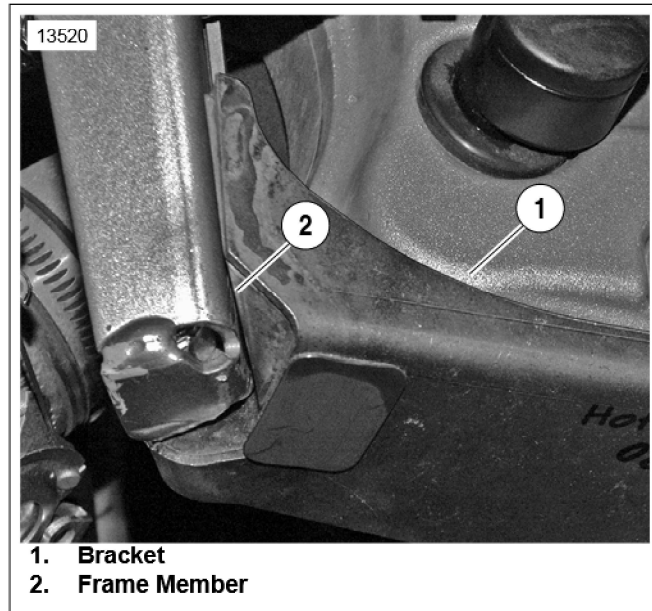

Figure 3. Bracket Properly Seated
- See Figure 3. Verify back of bracket (1) is properly seated against frame member (2) as shown.